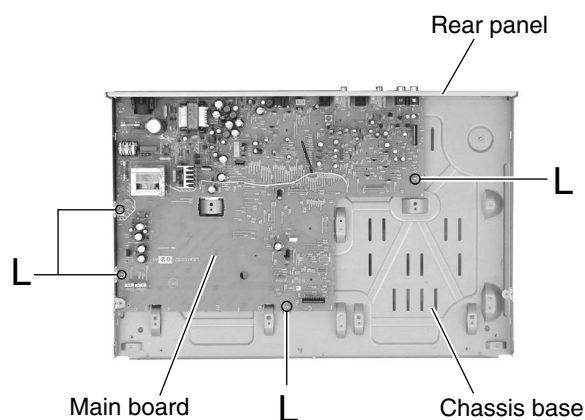

Fig.18
■ Removing the main board (See Fig.18)